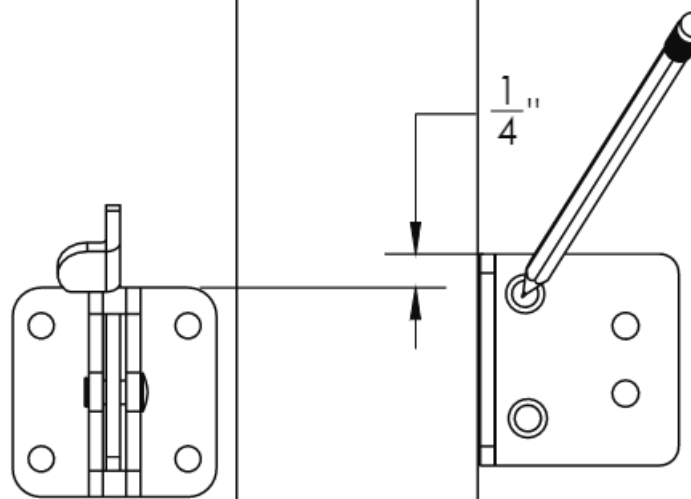

Fig. 4
a. Drill 1/8" pilot holes on the post for latch location (Fig. 4).